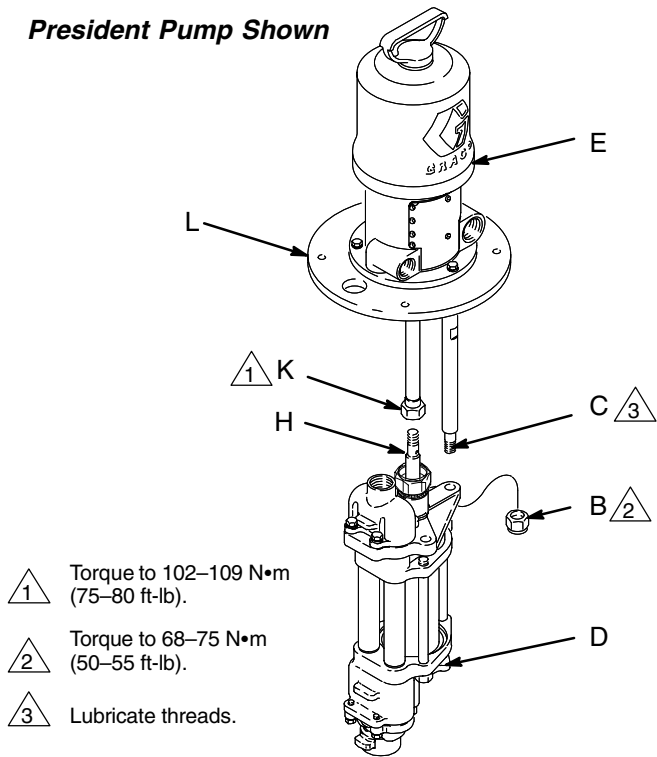
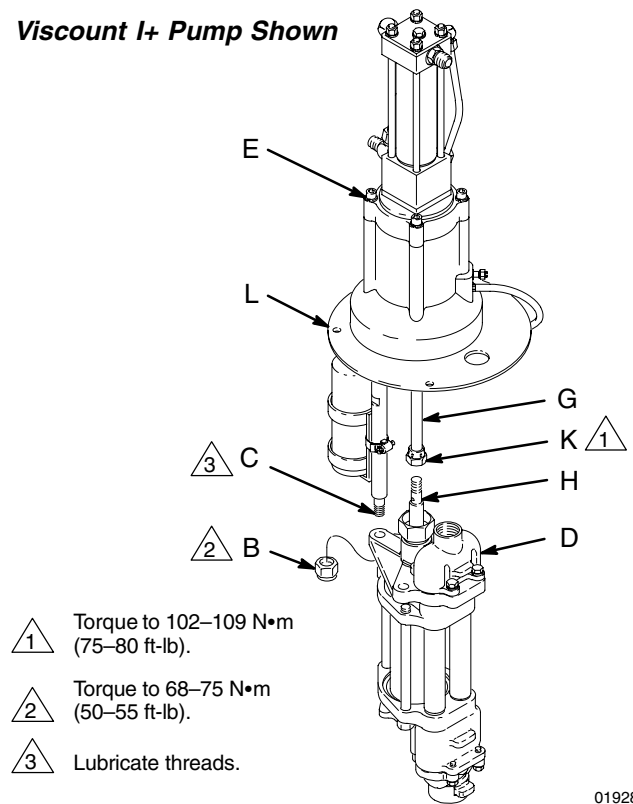

Fig. 8
Fig. 9
- **For President (Fig. 8) and Viscount (Fig. 9) pumps:** Unscrew the coupling nut (K) from the piston rod (H). Unscrew the locknuts (B) from the tie rods (C). Pull the displacement pump (D) off the motor (E).
- For President (Fig. 8) and Viscount (Fig. 9) pumps:
**NOTE:** If the coupling rod (G) and tie rods (C) have been disassembled from a President or Viscount motor, refer to **Reassembling the Coupling Rod and Tie Rods**. If they have not been removed, proceed as follows:
- *President and Viscount Pumps:* See Figs. 9 and 10. Unscrew the coupling nut (K) from the piston rod (H). Unscrew the coupling rod (G) from the air motor and set it aside.